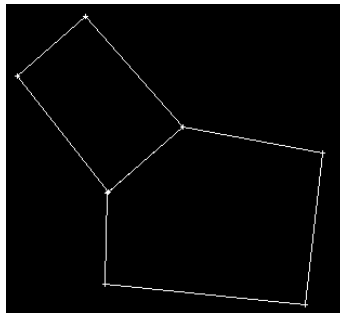

Figure 10-41. Results – Yes
- **Yes** – matches the source points exactly with the destination points (Figure 10-41).